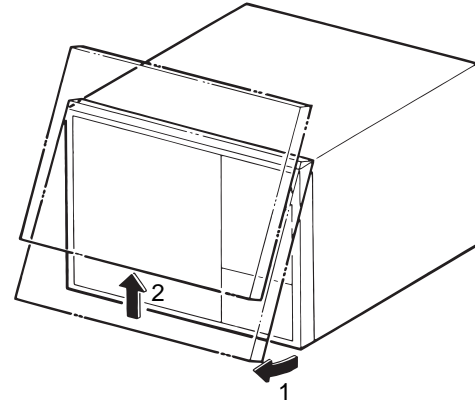
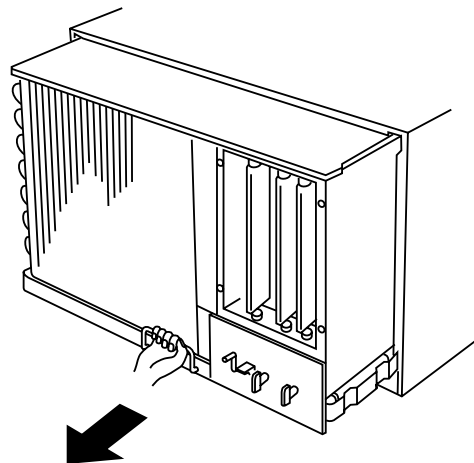

Fig. 17
Fig. 22
- (1) Grasp both side of the grille, pull it toward you approximately 70mm. (Fig. 17)
- (2) Slide the grille upward to free from the cabinet. (Fig. 17)
- (1) Remove the front grille. (Fig. 17)
- (2) Disconnect the grounding wire and power cord from the cabinet.
- (3) While holding top of the cabinet with one hand, grasp the handle with another hand and pull the unit toward you. (Fig. 22)